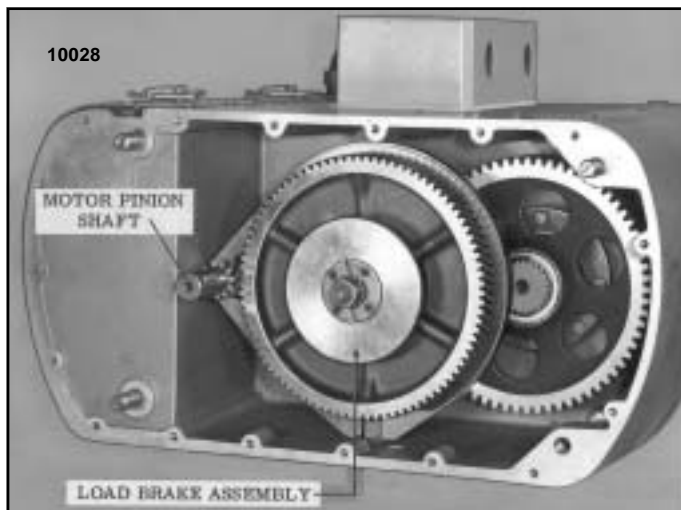

Figure 5-4. View of Gearing - Spider Removed
- b. Remove compression plate, washer and lining assemblies, springs and brake plates as described in Paragraph 5-5.g. Remove hex nuts and hex head bolts holding gearcase spider and remove spider. Inspect gearing for tooth wear or damage, (see Figure 5-4). If replacement parts are indicated, disassemble load brake and gearing as follows:
- (1) Pull out motor pinion shaft from gearcase, (see Figure 5-4).
- (2) The complete load brake assembly can now be pulled out from the gearcase or removed part by part.